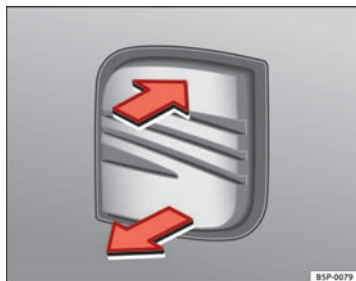

Fig. 66 Rear lid: opening from the outside
- Pull on the release lever and lift the rear lid ⇒ Fig. 66. The rear lid will automatically open.